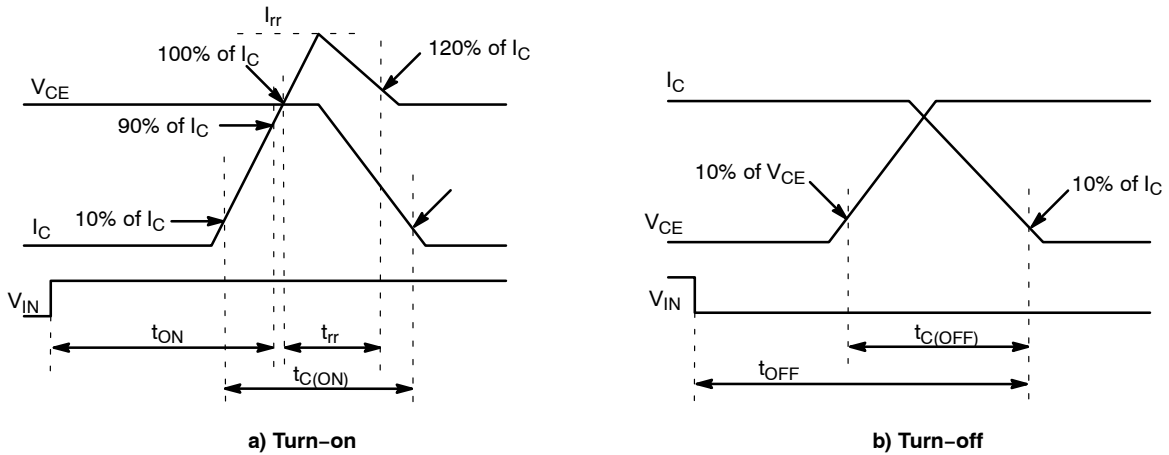

Figure 3. Switching Time Definition
4. t_{ON} and t_{OFF} include the propagation delay time of the internal drive IC. $t_{C(ON)}$ and $t_{C(OFF)}$ are the switching times of IGBT itself under the given gate driving condition internally. For the detailed information, please see Figure 3.